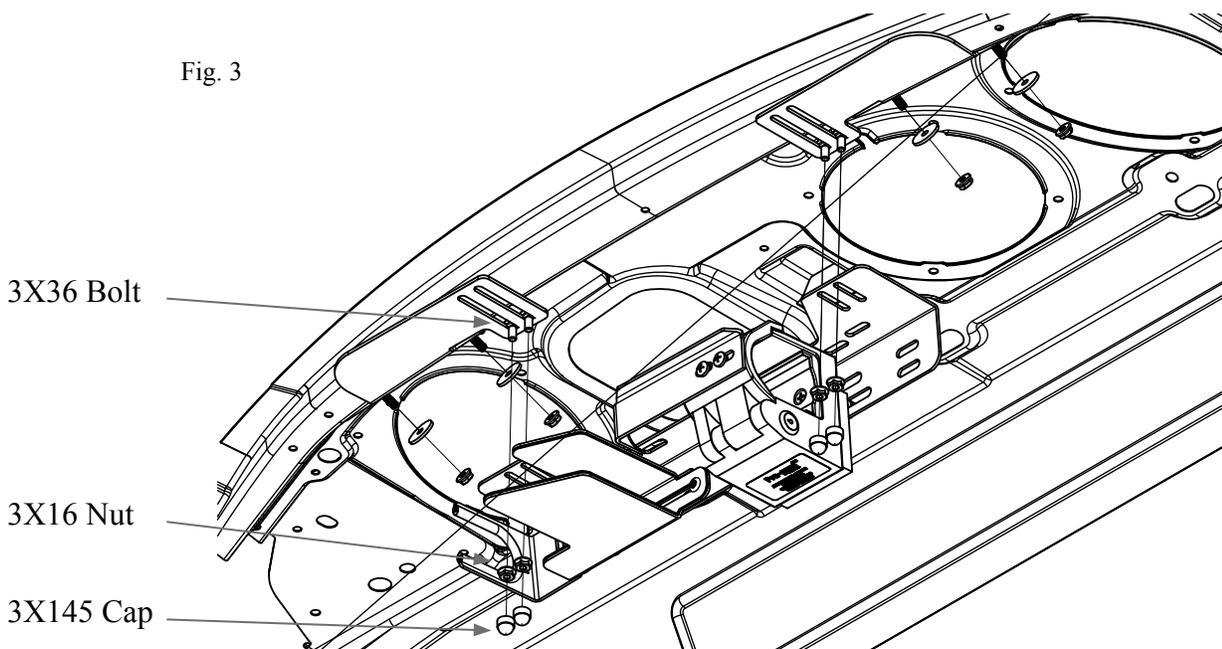

Fig. 3
- C. Place the 3X36 bolts into the slots in the brackets. Now, lift the pre-assembled gunrack into place aligning the slots in the brackets with the slots in the gunrack. Once the bolts studs are through the slots, then tighten the rack into place using the 3X16 nuts. Once tighten cover all exposed nuts with the 3X145 acorn caps. Refer to Fig. 3.